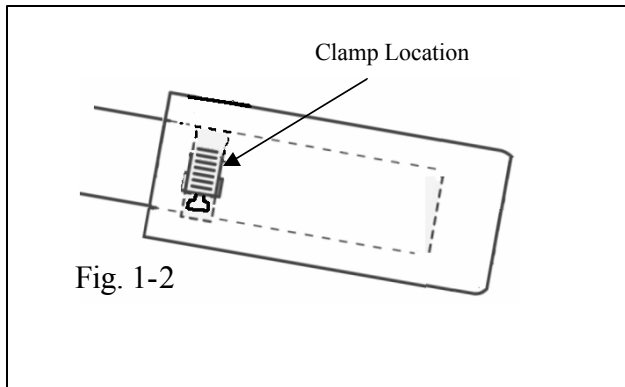

Fig. 1-2
- (c) Slide the exhaust tip & clamp assembly over the tailpipe as shown. (Fig. 1-2)